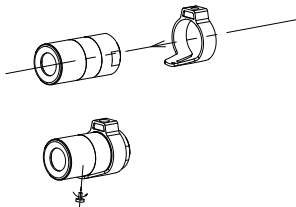

Figure 2-30 Loop the Tube Lens
4. Loop the tube lens with the loop of the bracket, and tighten it with the supplied screw. As shown in Figure 2-30.